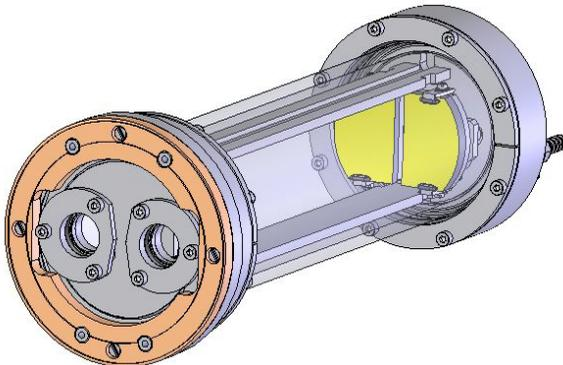

Fig 21. Bottom View of C5 Gas Cell Separated from Optical Unit
To carry out the procedure for unscrewing of the four screws (34) it is recommended to have the gas cell lying on its front, on a secure level workbench surface, to undo the rear screws and then turned over to lay on its back to undo the front screws. When the four screws (34) have been removed the gas cell can be separated from the optical unit. (See Fig 21 for resulting gas cell assembly).